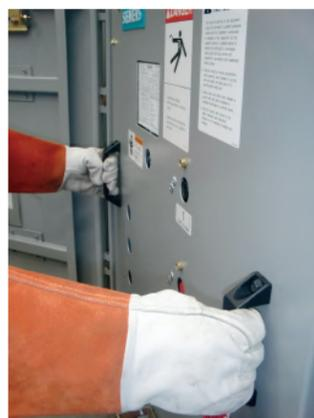

Figure 39: Removal of a circuit breaker
4. The circuit breaker is now free to be rolled out on the floor using handles as shown in Figure 39: Removal of a circuit breaker on page 76. The wheels of the circuit breaker are at floor level (unless the switchgear is installed on a raised pad), and one person can easily handle the unit.